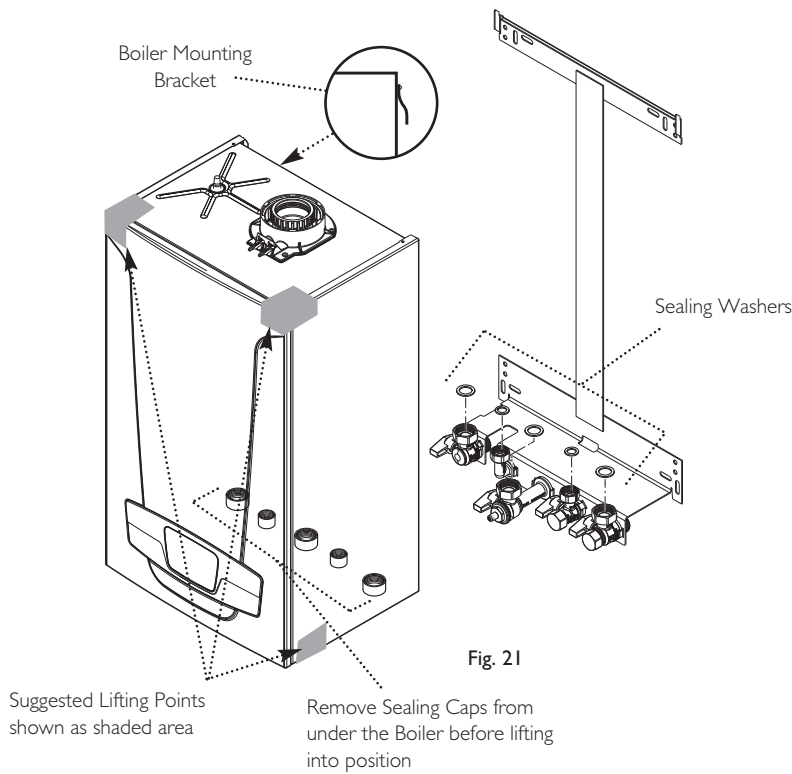

Fig. 21
2. Lift the boiler as indicated by the shaded areas. The boiler should be lifted by TWO PEOPLE. Engage the mounting bracket at the top rear of the boiler on the wall plate (Fig. 21) (see **Safe Manual Handling** page 5).